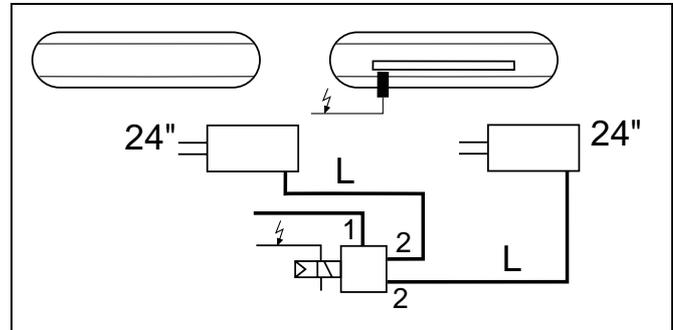
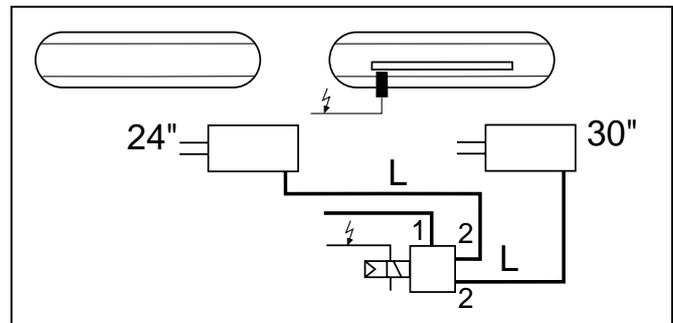

Fig. 6 Length L is identical for identical brake cylinders.
Fig. 7 With cylinders of different sizes:
- The lines from one ABS relay valve to multiple brake cylinders of the same size on one vehicle side must have the same length and the same cross-section (Fig. 6). In the case of cylinders with different line lengths, the line length L to the smaller brake cylinder must be longer (Fig. 7).